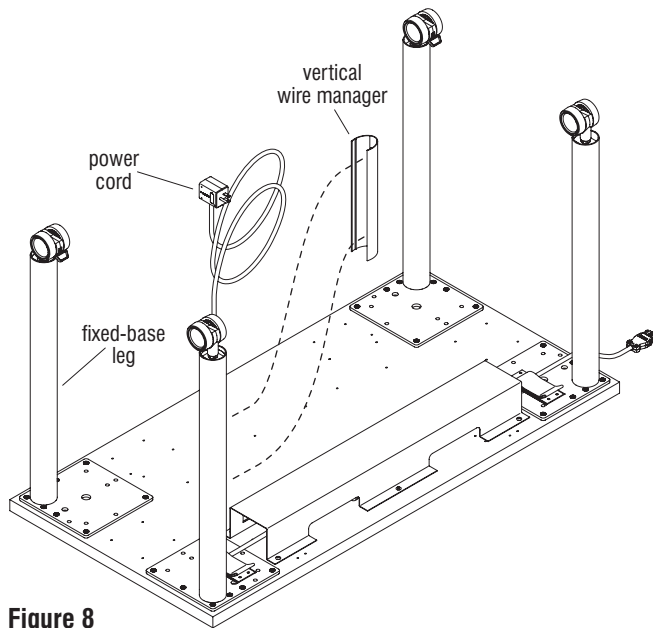

Figure 8
1. Route the power cord along the leg, then snap the wire manager to the post with the cord in between. Vertical wire manager easily snaps on and off the leg, to add or reconfigure cords (Figure 8).